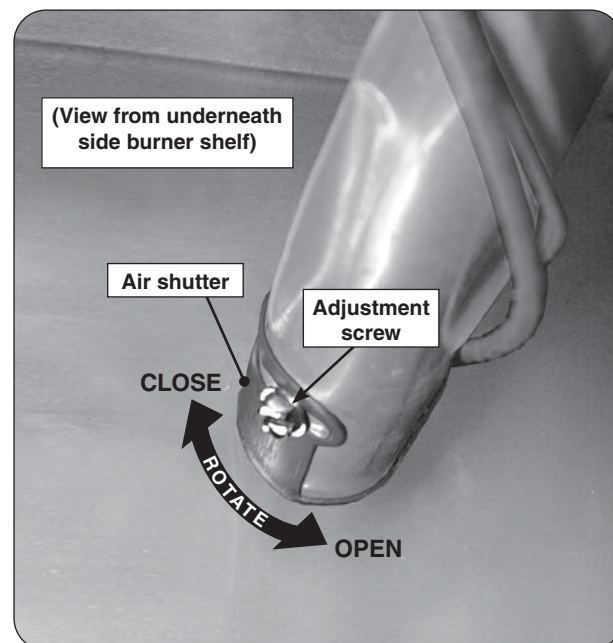

Fig. 33-1 Side burner air shutter adjustment detail
2. Loosen the adjustment screw with a flathead screwdriver, then carefully rotate the shutter to open or close it. See Fig. 33-1 for details.